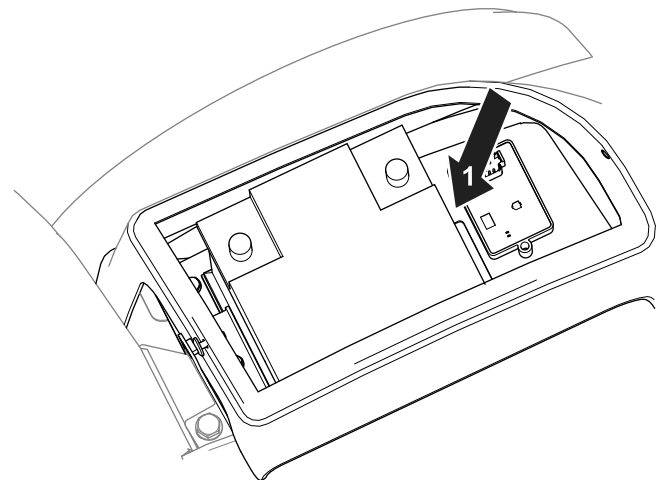

**Figure 18**
7. Route the wire harness under the platform with the machine wire harness and into the steering column (Figure 18).